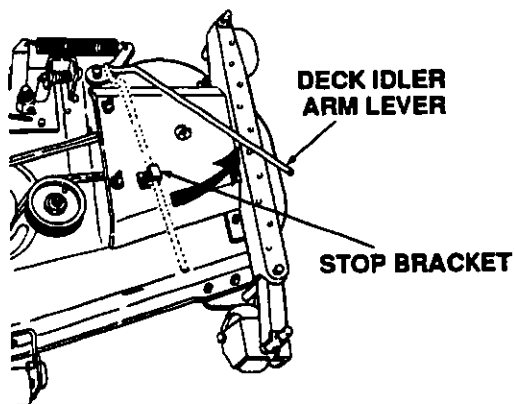

Figure 32
9. Lower tractor implement lift handle to its lowest setting. Disengage deck idler arm lever from its stop bracket and then release the spring tension until the lever is at the outside of the deck. (Refer to Figure 32.)